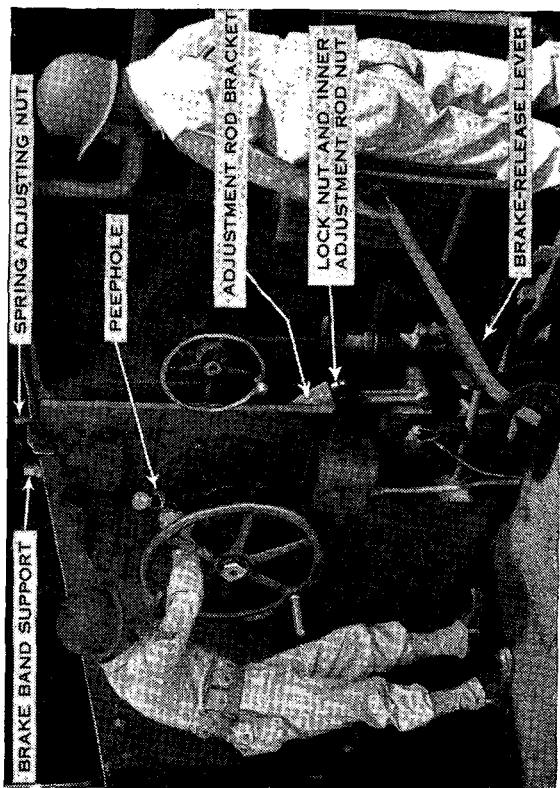
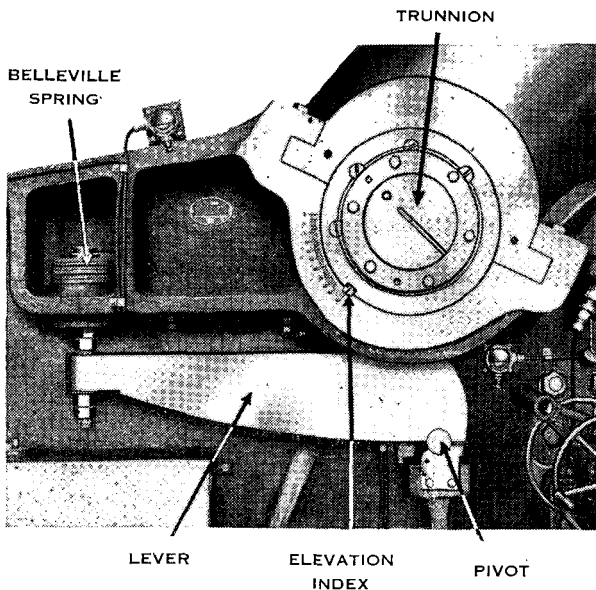

Figure 19. Checking the elevating brake clearance.
Figure 20. Antifriction device.
42. ELEVATING BRAKE. a. An elevating brake (fig. 19), consisting of a brake drum and brake band, is located on each side frame of the gun carriage. Each brake is always set when the brake levers are down, and they must be released by lifting the brake-release lever before power is applied to the elevating mechanism. The brakes stop the gun at any angle of elevation, when the brake-release levers are down, and prevent rotation of the tipping parts during recoil.
(2) The clearance between the top of the brake drum and the brake band should be $1/32$ inch when the brakes are released. A peephole is provided on each side frame through which this clearance can be checked. To adjust the clearance, remove the cap from the adjusting screw on top of the frame just above the brake (fig. 19), slip out the cotter pin, and turn the spring adjusting nut until the proper clearance is obtained.
(3) Take up the wear on the brake band by loosening the lock nut on the brake band adjustment rod and tightening the inner adjustment rod nut, being sure not to tighten it too much and cause the brake band to drag on the brake drum when the brakes are released. When the adjustments are made, replace and tighten all nuts, caps, and cotter pins.
43. ANTIFRICTION DEVICE. a. The antifric-tion device (fig. 20) on the M1919, M1919M1, M2, M3, and M4 carriages is designed to reduce the effort required to elevate or depress the gun and to take the shock of recoil without damage to the mechanism. The weight of the tipping parts of the gun is supported by roller bearings except at the time when the gun is fired. At that time, the force of the gun in recoil compresses the Belleville springs of the mechanism, and the trunnions of the cradle seat themselves on the main trunnion bearings of the side frames. After the effect of the recoil has been absorbed, the antifric-tion mechanism returns the cradle to its original position where it again floats on the roller bearings.